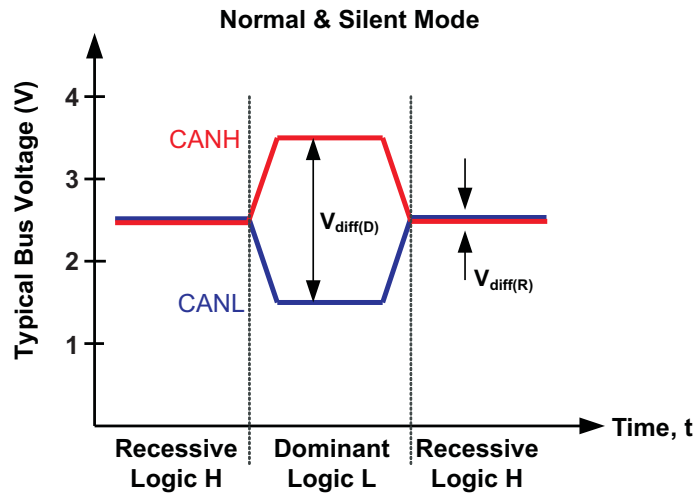
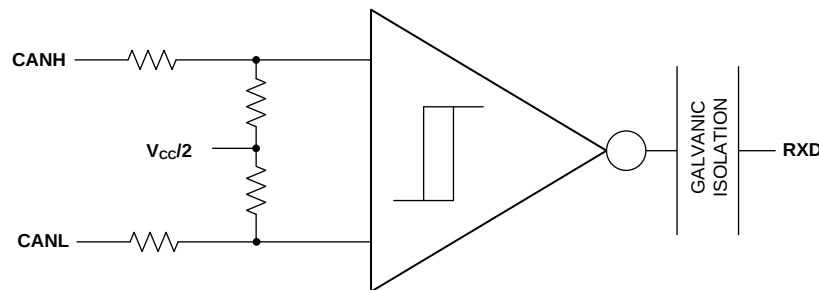

图 23. Bus States (Physical Bit Representation)
图 24. Simplified Recessive Common Mode Bias and Receiver
The CAN bus has two states during operation: *dominant* and *recessive*. A dominant bus state, equivalent to logic low, is when the bus is driven differentially by a driver. A recessive bus state is when the bus is biased to a common mode of $V_{CC} / 2$ through the high-resistance internal input resistors of the receiver, equivalent to a logic high. The host microprocessor of the CAN node will use the TXD pin to drive the bus and will receive data from the bus on the RXD pin. See 图 23 and 图 24.
(1) H = high level, L = low level, Z = common mode (recessive) bias to $V_{CC} / 2$. See 图 23 and 图 24 for bus state and common mode bias information.